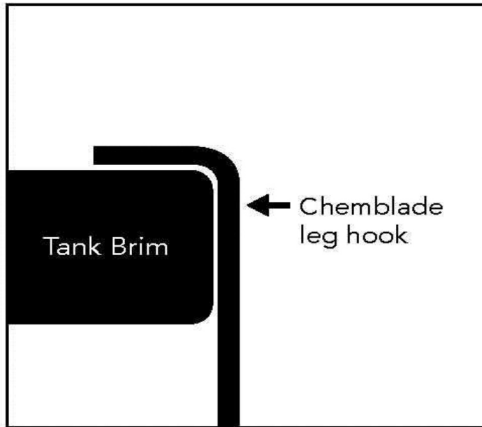

Fig. 1
3. Set Chem-Blade inside of lid opening where leg hooks catch on the brim of lid platform. (Fig. 1)